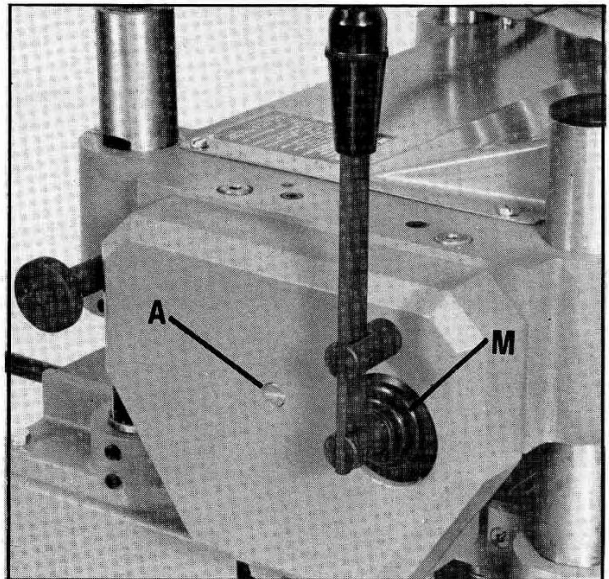

Fig. 25
9. Assemble rubber cover (M) Fig. 25, over shifter bracket and then assemble gear box cover with lever as shown. Lever should engage shifter bracket.
10. Replace screw (A) Fig. 25, and tighten.